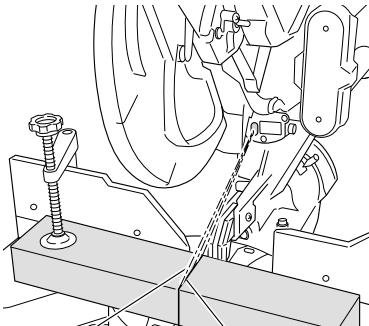

Fig. 21
- (3) After adjusting the position of the laser line, draw a right-angle ink line on the workpiece and align the ink line with the laser line. When aligning the ink line, slide the workpiece little by little and secure it by vise at a position where the laser line overlaps with the ink line. Work on the grooving again and check the position of the laser line. If you wish to change the laser line's position, make adjustments again following the steps from (1) to (3).
**NOTE:** Check and make sure on a periodic basis if the position of the laser line is in order. As regards the checking method, draw a right-angle ink line on the workpiece with the height of about  $25/32"$  (20 mm) and the width of  $5-29/32"$  (150 mm), and check that the laser line is in line with the ink line [The deviation between the ink line and the laser line should be less than the ink line width (0.5 mm)]. (Fig. 21)